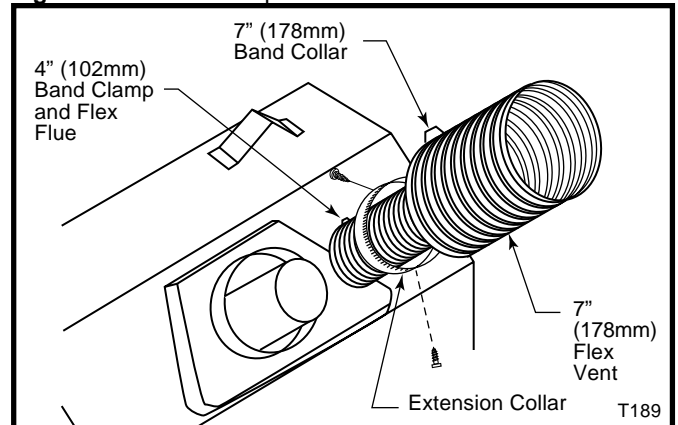

Fig. 22 Insert collar into flex pipe and secure with band clamp.
An extension collar is included with side wall cap kits to simplify the connection of the flex pipe to the fire-place. Refer to Page 13, Figure 22.
6. Connect corrugated side of the extension collar (7" dia.) into the 7" dia. flex pipe. (Fig. 22) Place a small bead of silicone around the collar approximately 1/4" from the leading edge of the corrugation. Insert the collar firmly into the flex pipe and secure with the provided (7" dia.) band clamp.
8. To finish connections, place a small bead of silicone to the outside of the fireplace inlet flange. Then, slide the extension collar over the inlet flange and secure with the three (3) screws provided.